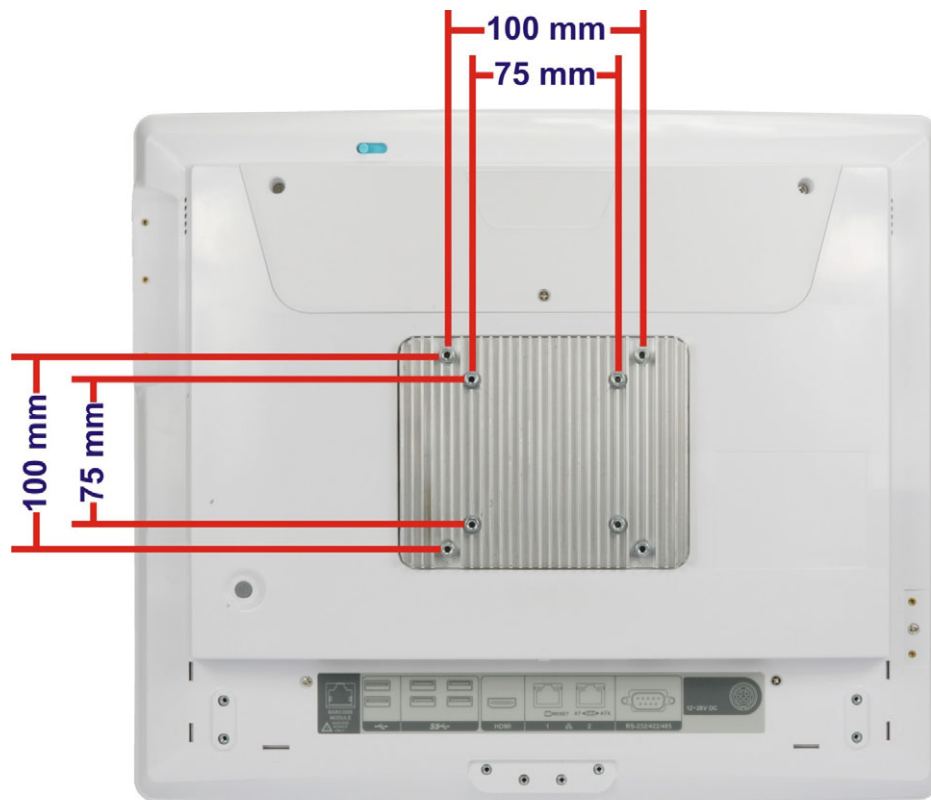

Figure 3-31: VESA 75 and VESA 100 Mounting Retention Screw Holes
Step 3: Align the retention screw holes on the mounting arm interface with those in the panel PC (**Figure 3-31**).
Step 1: Locate the VESA mounting screw holes on the rear of the POC-17C-ULT3 (Figure 3-31). This is where the bracket will be attached.